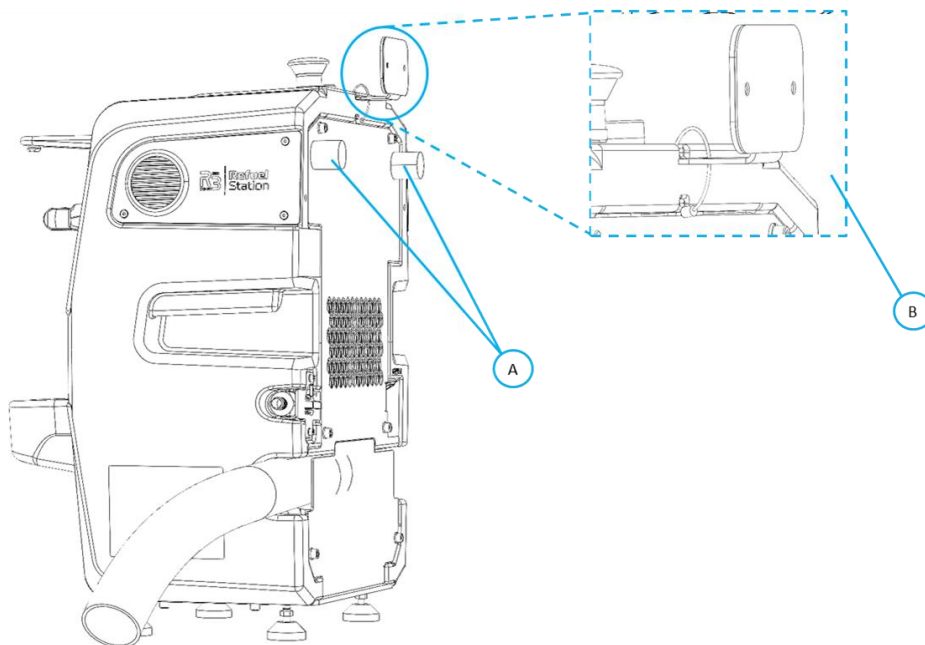
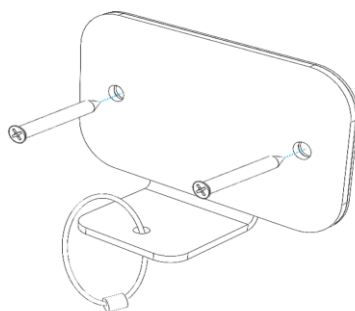

FIGURE 2-18
FIGURE 2-19
1. Position the Refuel Station against a wall, ensuring the rubber stoppers (**A**) (see Fig. 2-18) are touching the wall.
2. Stick it to the wall by removing the liner on the back of the anti-tipping tab OR attach the anti-tipping tab (**B**) (see Fig. 2-18) to the wall and secure it using M6 screws (see Fig. 2-19).